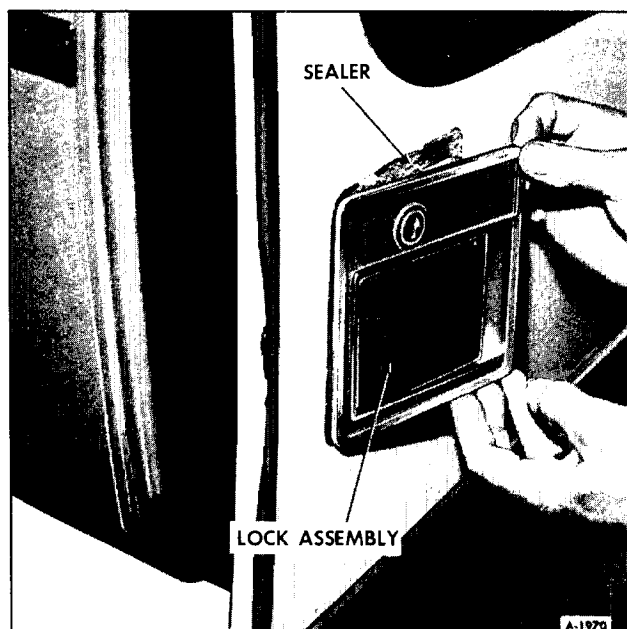

Figure 17-Removing Lock Assembly
2. Push lock assembly out from the inside and remove (See figure 17).
1. Apply new sealer if required and install lock assembly as shown in Figure 17.